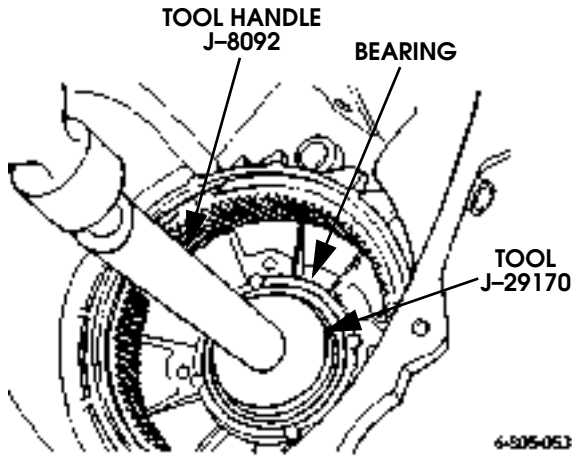

Figure 5-122: Input Gear Bearing Removal
1. Remove old bearing from interior of front case as shown. Use tool handle J-8092 and tool J-29170 (Figure 5-122).